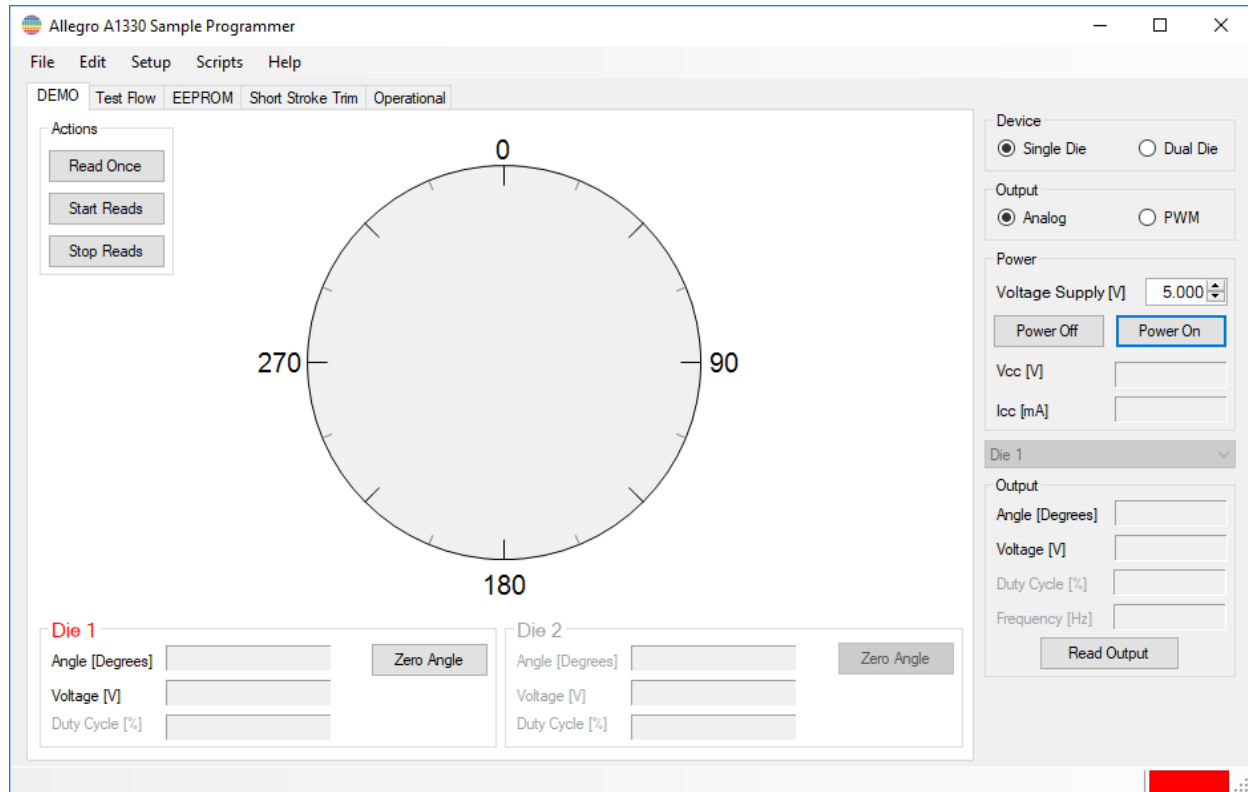

Figure 3: Main Window
1. Double click on the application icon. The main window will appear (see Figure 3)